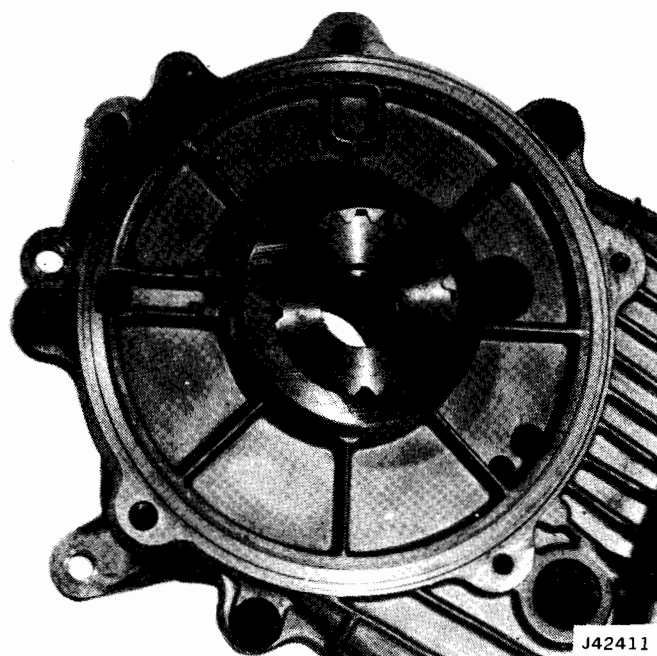

Fig. 8-57 Drive Hub and Sleeve Installed
- (6) Align and install case cover on drive sprocket and differential. Rotate output shaft and align with lockup hub if necessary. Be sure drive sprocket thrust washer is not displaced
(7) Assemble drive hub, drive sleeve, and snap ring if disassembled (fig. 8-57).
(8) If not equipped with reduction unit, install drive sleeve and hub on drive sprocket. Be sure snap ring seats completely.
(9) If equipped with reduction unit, be sure oil baffle is in position, and install pinion cage and snap ring.
(10) Install case assembly on cover assembly and install front output shaft, output shaft thrust washer and front case gasket.
(11) Align and install case on differential drive sprocket. Install case-to-cover attaching screws. Tighten screws alternately and evenly to 20 foot-pounds torque.